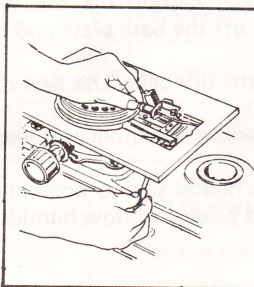

Fig. 26
- (1) Remove the body following the exchange procedures of wick steps (1) to (5).
- (2) Take out the glow plug by moving the ignition lever with the right hand. Use left hand to turn glow plug to left while pushing in slightly to remove it. (Fig. 26)